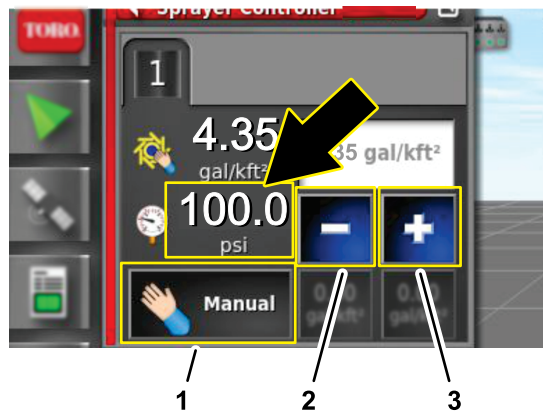

Figure 282
- In the spray rate controller dialog box, press the RATE CONTROL MODE icon until manual mode displays (Figure 282).
- Press the decrement icon (-) or increment icon (+) to adjust the spray system pressure (Figure 282) to 6.9 bar (100 psi).